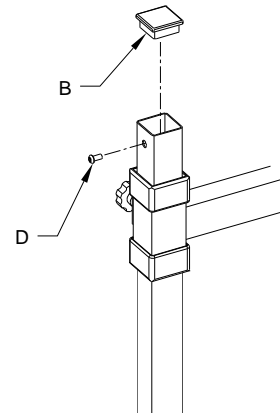

Figure 9
16. Install tube enclosures. See Figure 9.